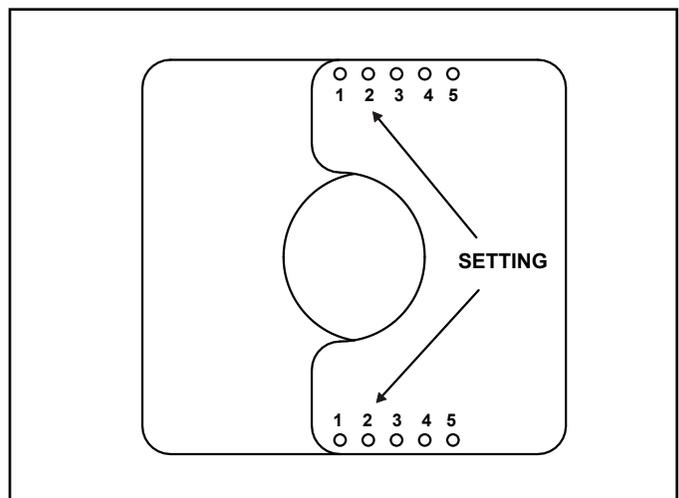

Figure 4.11 Set the Exhaust Restrictor
3. The setting for CRAVE4836-B, CRAVE6048-B, CRAVE7260-B and CRAVE8472-B is 2-2. Align the holes marked "2" on the numbered exhaust restrictor piece with the hole on the other exhaust restrictor piece. See Figure 4.11. Align the exhaust restrictor pieces with the pilot holes in the inner firebox chamber. Use two 1/2 inch self-piercing screws to secure vent restrictor to firebox heat shield.
2. The setting for CRAVE4836ST-B, CRAVE6048ST-B, CRAVE7260ST-B, and CRAVE8472ST-B is a 2.5 inch setting, or 2-2. Align the holes marked "2" on the numbered exhaust restrictor piece with the hole on the other exhaust restrictor piece. See Figure 4.11. Center the exhaust restrictor on the vent and secure in place with two 1/2 inch self-piercing screws.